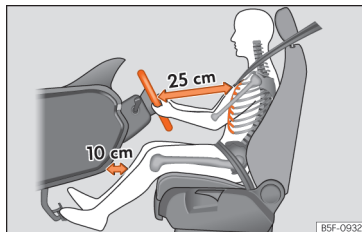

Fig. 20 The correct distance between the driver and the steering wheel must be at least 25 cm [10 inches].
- Adjust the steering wheel so that it is at a distance of at least 25 cm (10 inches) from the sternum >>> Fig. 20 and can hold it with both hands on the sides, on the outside, with the arms slightly flexed.